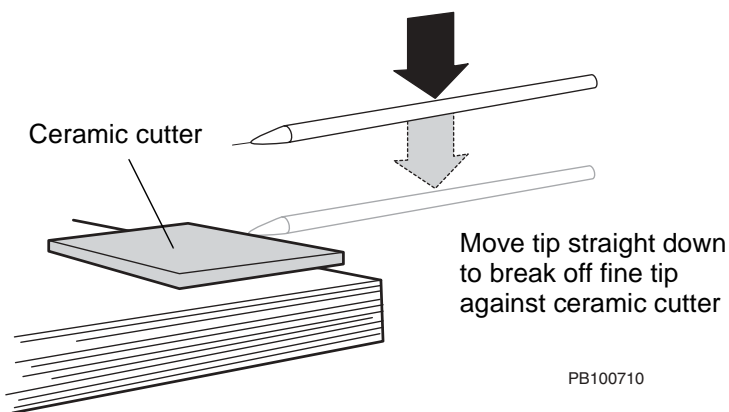

Figure 4-4 Breaking Off the Fine Tip of a Closed-End Tip
2. Hold a ceramic cutter flat on the pad so that the edge of the cutter extends beyond the edge of the pad (Figure 4-4).